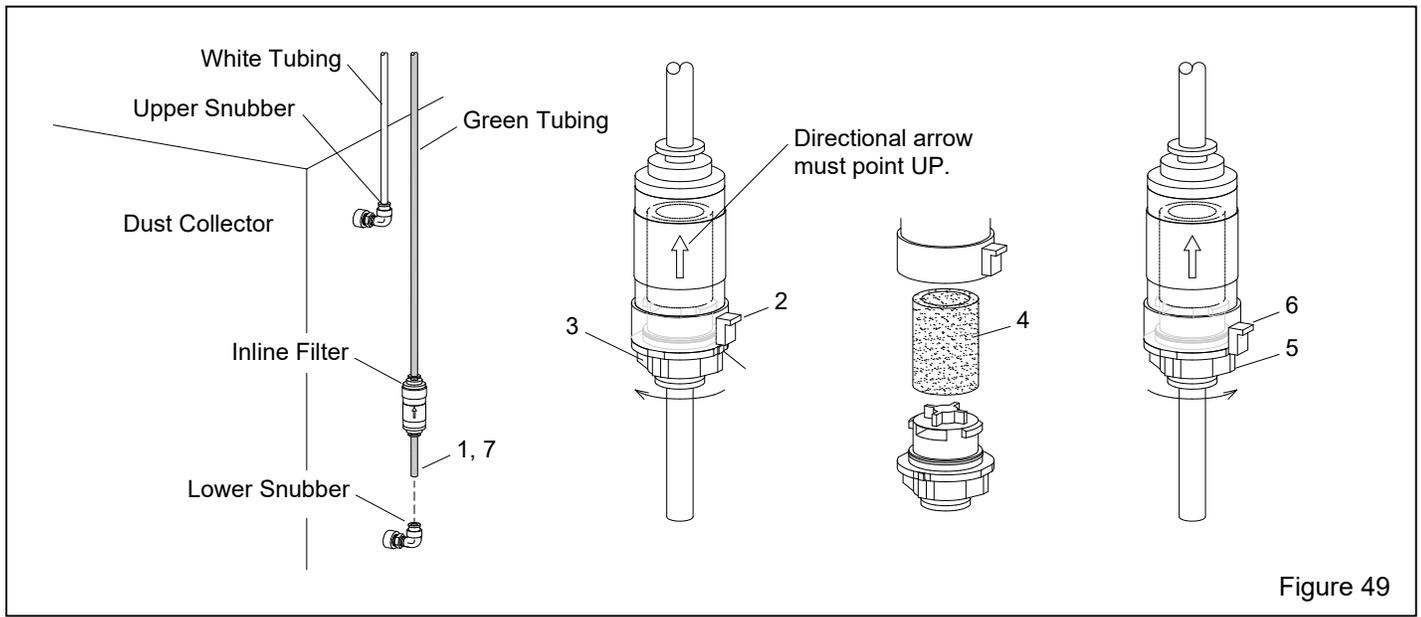

Figure 49
## 7.15 Clean Dust-Collector's Inline Filter – Figure 49
**7.15.1** To avoid cartridge pulsing during cleaning, make sure power is OFF (red pushbutton is pressed). Refer to the matching step numbers in Figure 49 and clean the filter as follows:
### 7.16 Clean Dust-Collector's Snubber Fittings Figure 49